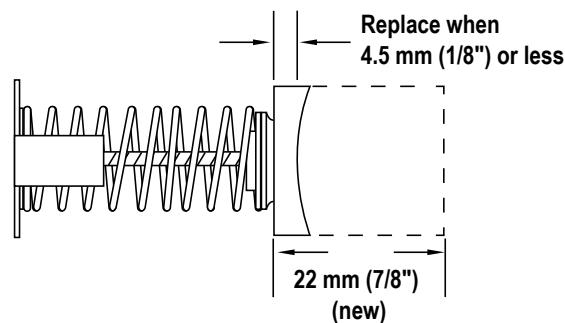

Fig. 7. Brush Inspection
- C. The brush assemblies must be replaced if they are 4.5 mm (1/8") long or less. See Figure 7.